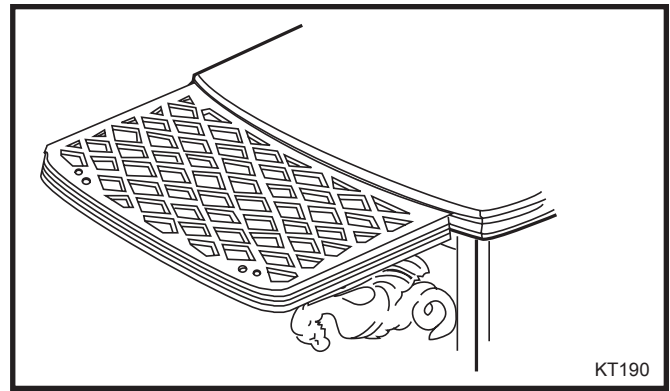

**Fig. 4** Groove on underside of flat bracket.
**Fig. 3** Attach dragon bracket to front flat bracket. There is a groove on the underside of the flat bracket. Position the flat bracket so the top of the dragon bracket will fit in the groove. (Fig. 4)
Be sure the top of the dragon bracket is in the groove on the underside of the flat bracket. (Fig. 4)